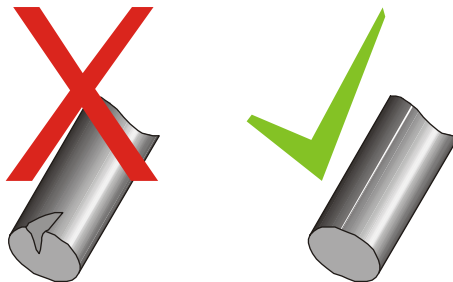

Figure 3. Edge of lead must be free of chips or nicks
4. Successful preparation is indicated by the end face of the lead being flat, smooth and having a circular cross-section. The edge of the lead must be free of chips or nicks (Figure 3). If necessary, use the supplied abrasive sharpener to complete the preparation to a smooth finish.